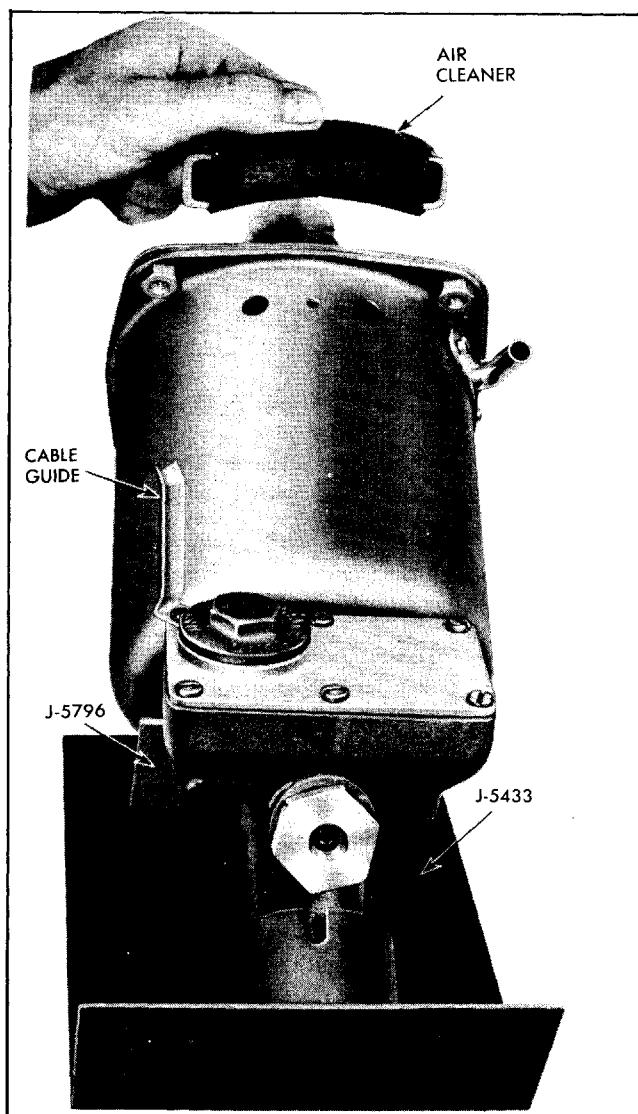

Fig. 5-39 Removing or Replacing Air Cleaner Assembly
The Moraine Power brake unit can be identified by the cast iron master cylinder and cast iron filler cap (Fig. 5-39). The Bendix Power brake unit can be identified by the die-cast hydraulic cylinder and pressed steel filler cap (Fig. 5-17).
2. Clamp master cylinder end of unit in vise or mount unit in special holding fixture J-5433 with adapter J-5796 and remove cable guide (Fig. 5-39). Remove screw that holds air cleaner unit outside of power cylinder. Removal of the air cleaner unit must precede disassembly of internal parts to avoid damage to large leather piston cup inside power cylinder housing.